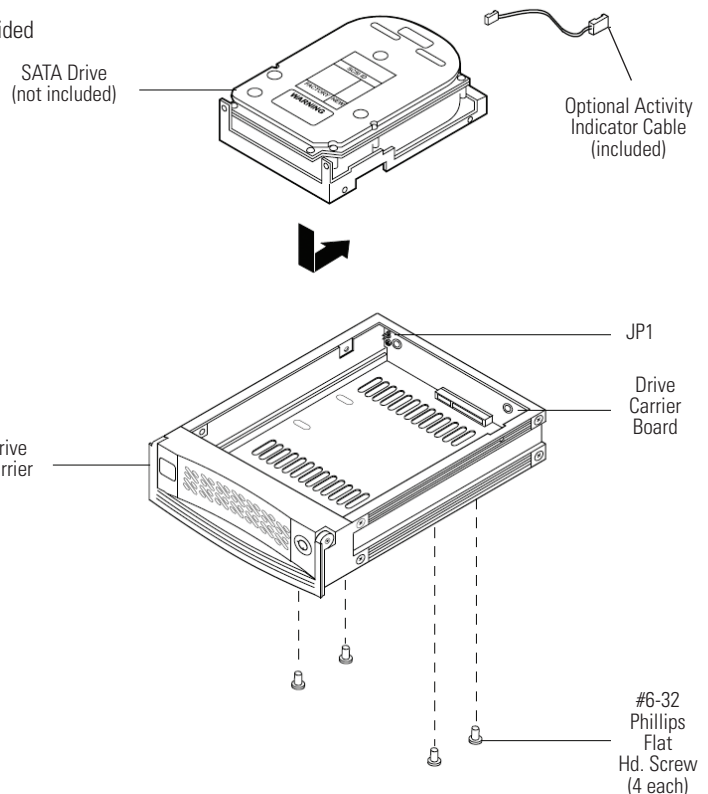

Figure 2: Drive Installation Assembly
1. Carefully insert the drive into the carrier. Slide the drive towards the Drive Carrier Board, so that the I/O connector on the drive mates with the connector on the Drive Carrier Board (figure 2). Turn the drive/carrier assembly over.
2. Fasten the drive into place with four (4) #6-32 Phillips Flat Hd. Screws (figure 2). Some drives may require minor adjustments before securing into carrier with screws. If drive supports the Activity Indicator feature, connect one end of the Activity Indicator Cable (provided) to the drive and the other end to JP1 located on the Drive Carrier Board (figure 2).